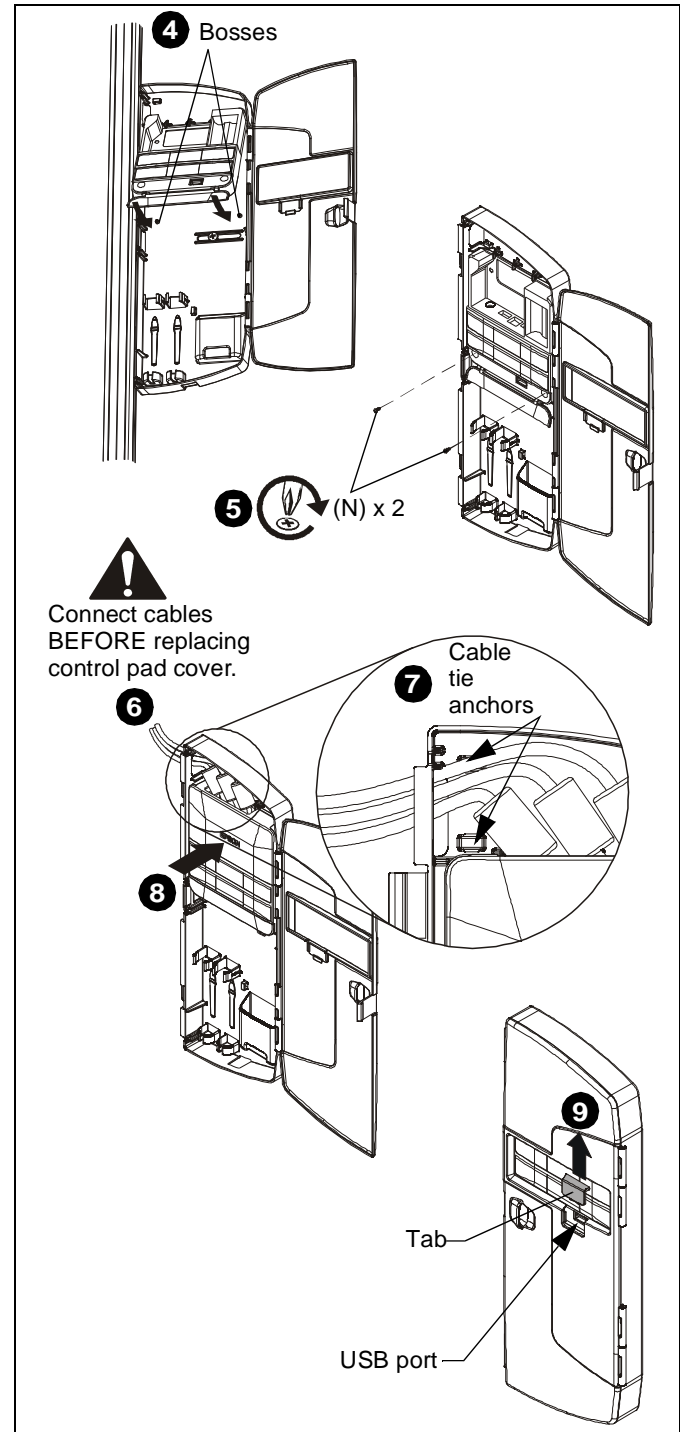

**Figure 11**
1. Remove top cover from control pad. (See Figure 11)
2. Open lower cover on control pad. (See Figure 11)
3. Insert control pad into control housing (U) by sliding it up under tabs inside housing. (See Figure 11)